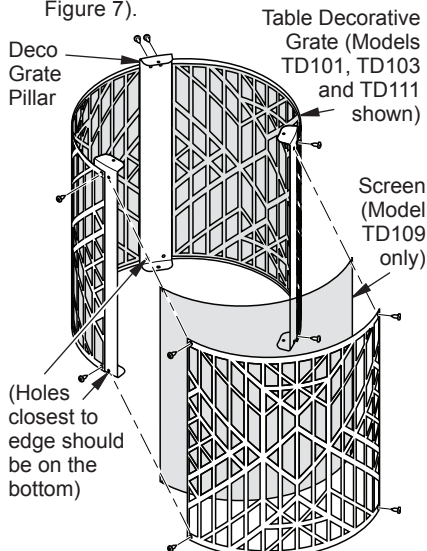

Figure 6 - Deco Grate and Grate Pillar Assembly
12. Model TD109 only: Place 3 screens around grate pillars. For all models, place 3 table decorative grate pieces around grate pillars. Attach to grate pillars with 4 screws (C) per grate as shown in Figure 6.